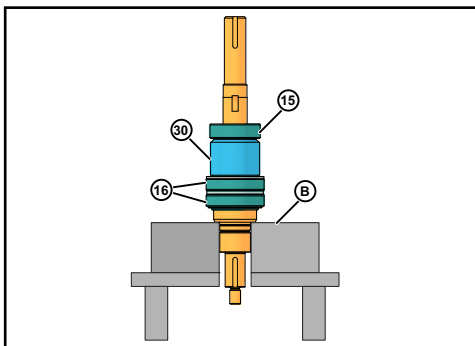

Figure 47 - Remove Bearings From Shaft
12. Use a hydraulic press and V-blocks (Figure 47, item B) to remove the bearings (items 15 and 16) and spacer (item 30)